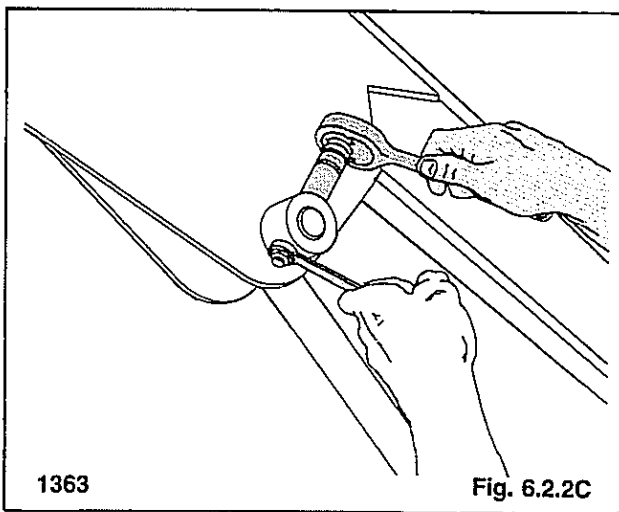

Fig. 6.2.2C
7. Install the locknuts and lock bolts in the lift cylinder pivot pins (Fig. 6.2.2C).